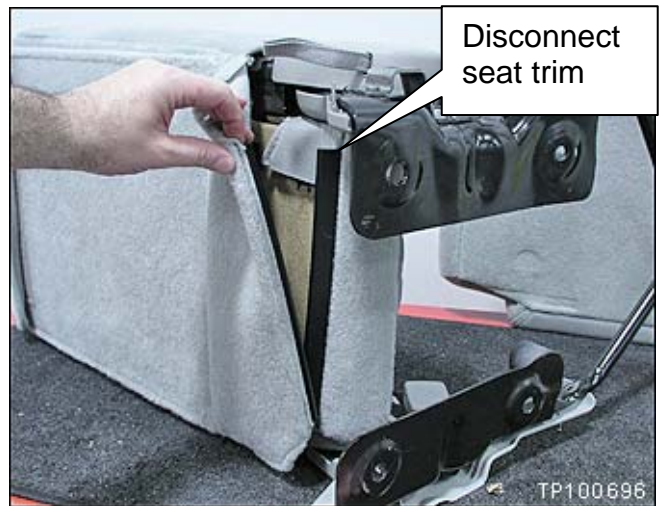

Figure 8
4. Disconnect the seat trim as shown in Figure 8.